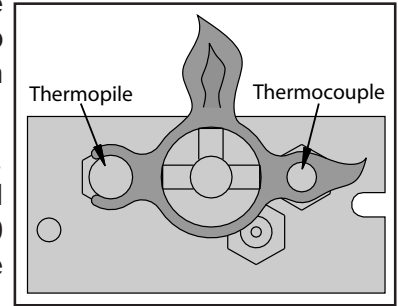

Figure 4. Pilot Flame
1. Turn off the gas to the fireplace. **If not recently done, remove the glass and let the unit air out for at least five (5) minutes to clear out any gas.** Turn on gas to the heater. Leak test all joints with soapy water. **NEVER USE OPEN FLAME FOR LEAK TESTING.**
2. Start the pilot by pressing the gas control knob and turning it to PILOT. While holding the gas control knob in, press the piezo ignitor several times until the pilot light starts. Hold the gas control knob in for 30 seconds. Check that the pilot has fully engulfed the thermocouple assembly (see Figure 4).
Periodically do a visual check of the pilot flames. The outside flames should encompass the thermocouple and thermopile (see figure 4) and the middle flame should burn over the burner ports. Also check that the burner is operating correctly, refer to Venturi Adjustment section.